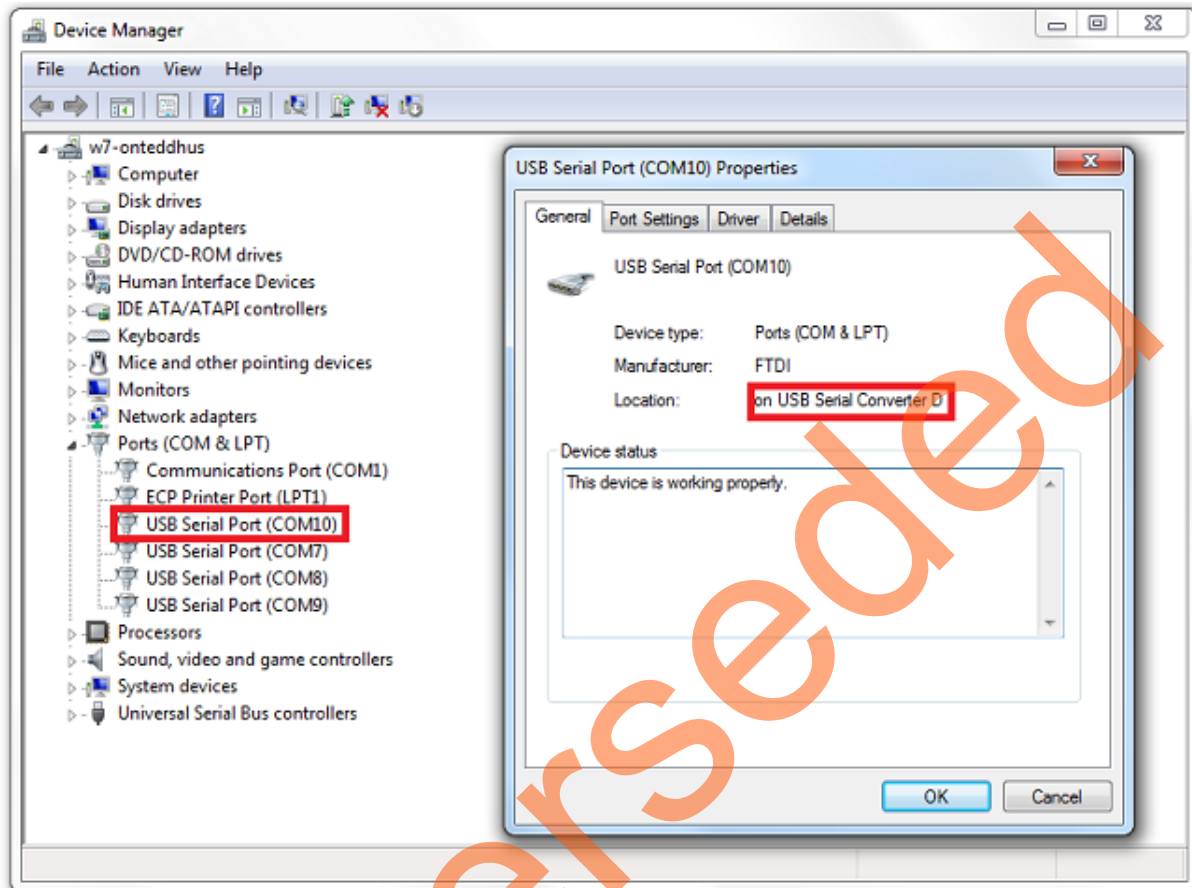

Figure 35 • Device Manager Window
7. Connect the host PC to the J18 connector using the USB min-B cable. The USB to UART bridge drivers are automatically detected. Verify if the detection is made in the device manager, as shown in Figure 35 on page 31.